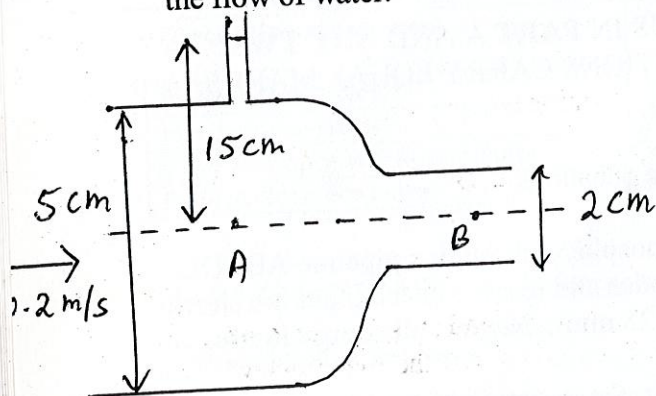

Figure 2
2) Water flows steadily in a horizontal pipe section AB as shown in Figure 2. The diameter of the pipe decreases from 5 cm at A to 2 cm at B, as shown in the figure. The average velocity of the flow at A is 0.2 m/s. A simple water manometer connected to the pipe at A shows a water level of 15 cm above the level of A, as shown in the figure. The density of water is  $1000 \text{ kg/m}^3$ .